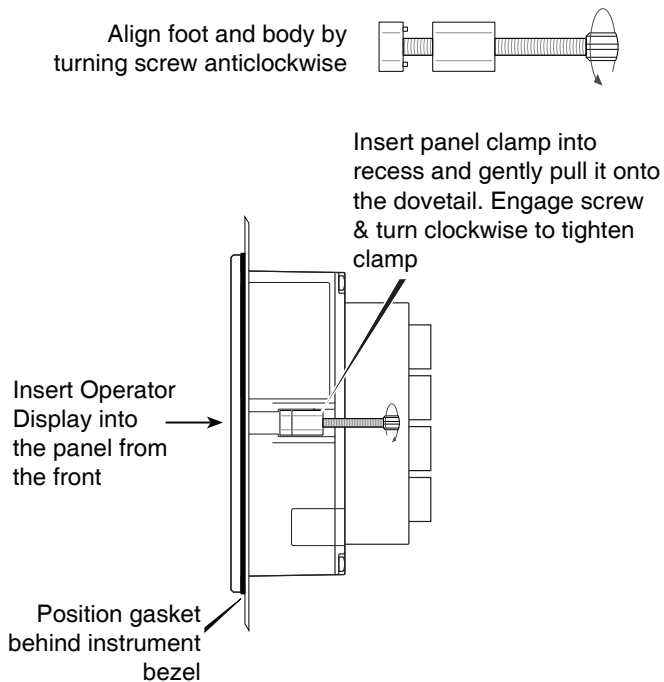

Fig 3 Installation of Operator Panel and mounting clamps
2. First ensure that all eight panel mounting clamps are closed by turning the knurled screws fully anticlockwise until the two pips in the clamp foot align with holes in the clamp body as shown in Fig 3.
4. Place a clamp in the recess on each side of the Operator Display, pulling gently to slide it onto the dovetail as shown in Fig 3. Push the knurled screw slightly forward to engage the thread and tighten by turning clockwise until it is just finger tight. When both clamps are fitted ensure that the gasket behind the front panel bezel remains correctly positioned before fitting the remaining panel mounting clamps. Finally, fully tighten all the panel clamps to secure the instrument. The maximum recommended clamp tightening torque is 25cNm (2.2 lbf in) which is approximately equivalent to finger-tight plus one half turn. Do not over tighten.